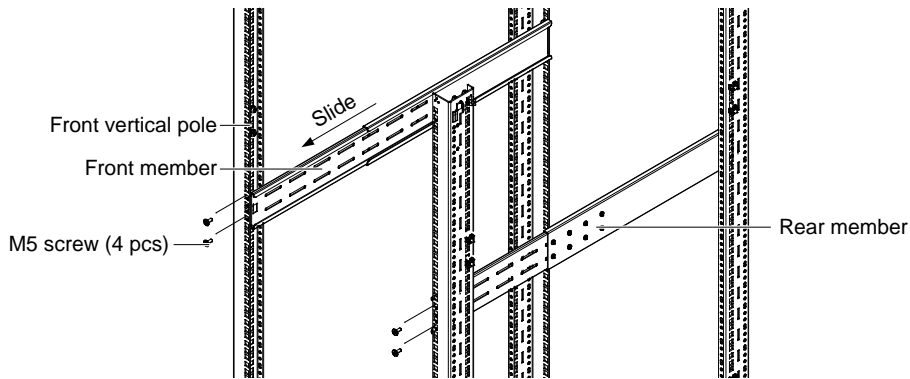

Figure 5-6 Installing front member of each bracket assembly
6. Get eight M4 screws and eight M4 nuts from the hardware pack in this kit. Each nut has a locking, nylon insert that begins gripping the screw when it is halfway tight. Make sure to tighten the nut and screw completely to ensure locking action. Fasten the rear member and the front member together using four screws and four nuts per bracket assembly as shown in Figure 5-6. For maximum support, insert fasteners for each bracket assembly as far apart as possible, depending on rack depth, while still joining both members (see figures at right). Check alignment of bracket assemblies and **TIGHTEN ALL SCREWS FROM Step 3 to Step 5**.